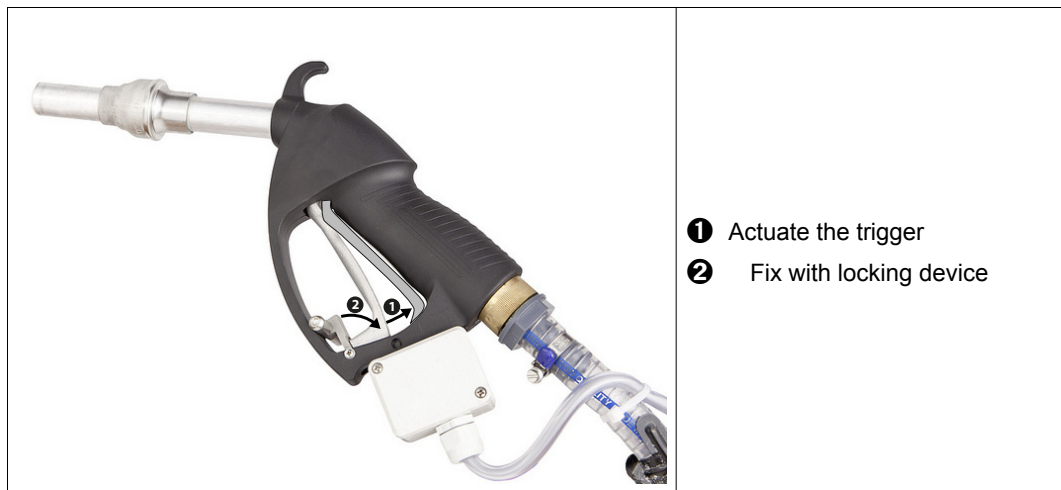

Figure 6/3: Actuate the pump nozzle
11. The locking device **2** can be used to fix the trigger in an opened position. Pulling on the trigger again releases the locking device. The dosing will not be triggered if the battery voltage is too low (protection against exhaustive discharge, see *figure 6/4*). Charge the battery first. When the locking device is fixed (see *figure 6/3 on page 38*), you can press the  key to dose the required feed amount several times without having to actuate the trigger again.
12. Alternatively you may trigger the portion dispense by means of the „pump nozzle“ push button located on the drawbar head (see *figure 6/6 on page 42, digit 3*).